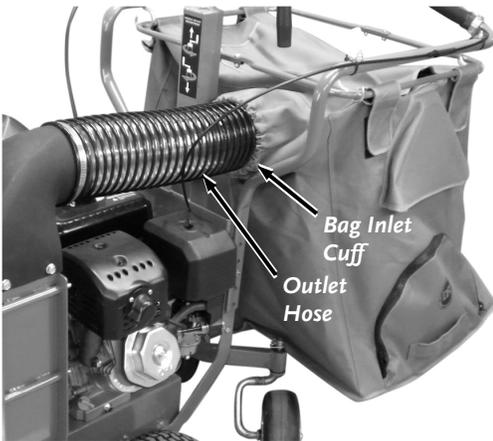

Figure 9
8. Install the Outlet Hose to the Collection Bag by expanding the Inlet Cuff and sliding it over the Outlet Hose (**Figure 9**). Ensure the Inlet Cuff is pulled fully forward onto the Outlet Hose.